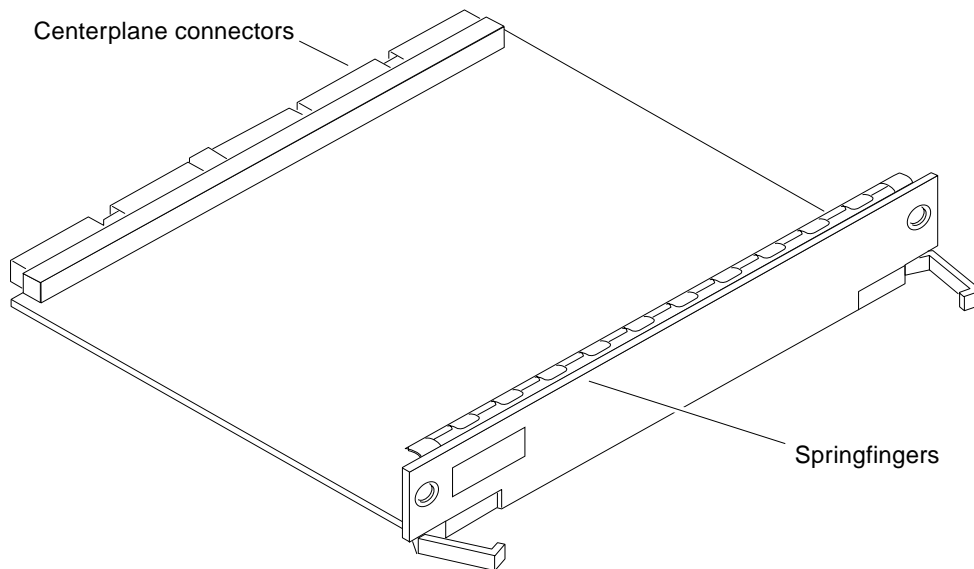

FIGURE 4-2 Load Board (Enterprise 6500 System Only)
- Empty slots in Enterprise 6500 systems must have a load board installed (FIGURE 4-2).